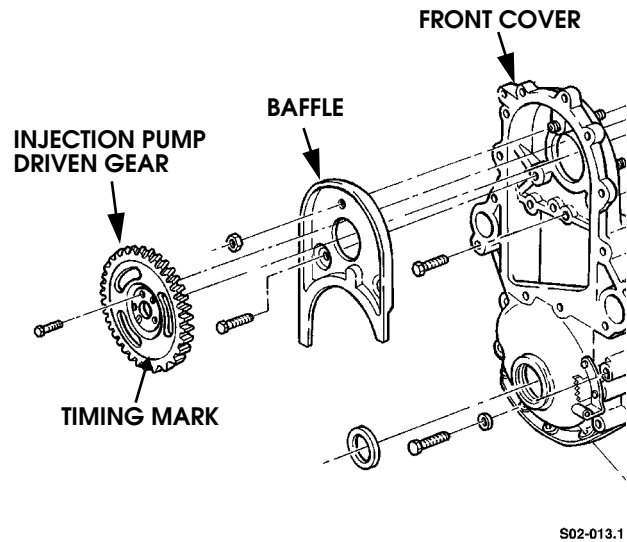

Figure 2-31: Baffle and Pump Driven Gear Installation
11. Install baffle in front cover (Figure 2-31). Maintain minimum clearance of 0.040 in. (1.02 mm) between baffle and injection pump drive gear. Tighten baffle attaching bolts/nuts to 33 lb-ft (45 N•m) torque.